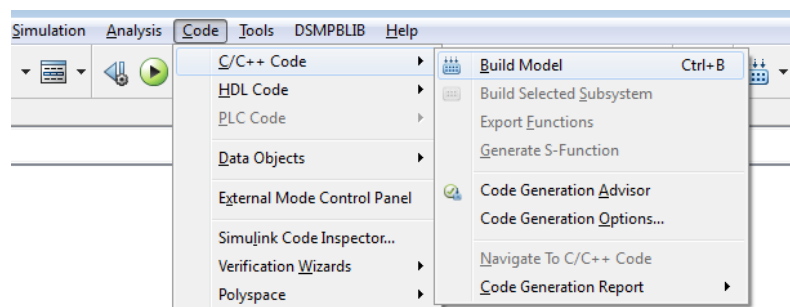
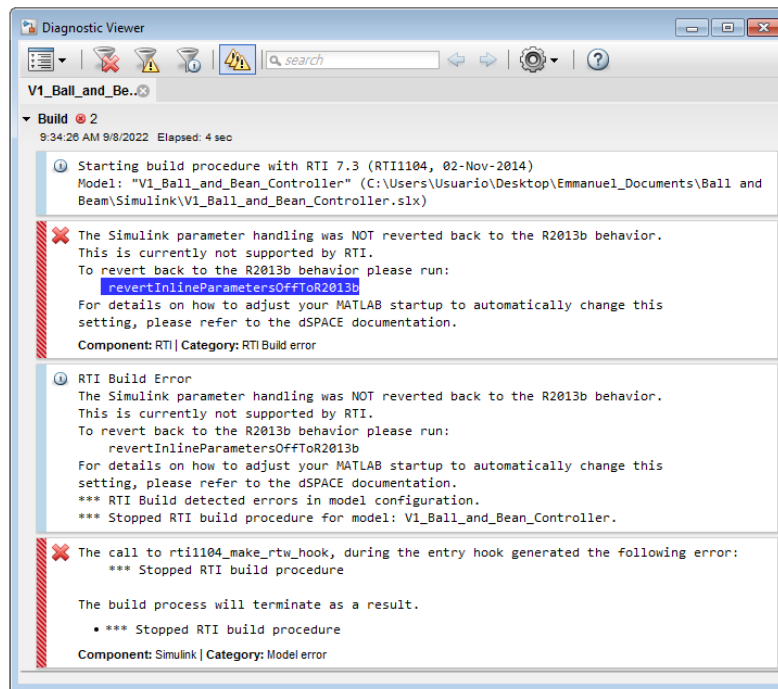

Figure 25: Generation of C code
Figure 26: RTI Error message
- The final step is to generate the code that will be compiled in the board. In Simulink, go to the menu 'Code', and in the option 'C/C++ Code' select 'Build model', as seen in figure 25 or press **Ctrl+B**. If it is the first time this process is done after opening MATLAB, the error shown in figure 26 will appear in the 'Diagnostic Viewer' window. To solve the issue, paste the code shown in the message **revertInlineParameterOffTo2013b** in the command window of MATLAB and press enter. The message shown in figure 27 will appear. In the Simulink model, an icon will appear ('RTI Data'), showing that the model is associated with a Real Time Interface, as seen in figure 28. A .sdf file, along with other files and folders will appear in the route selected in MATLAB.